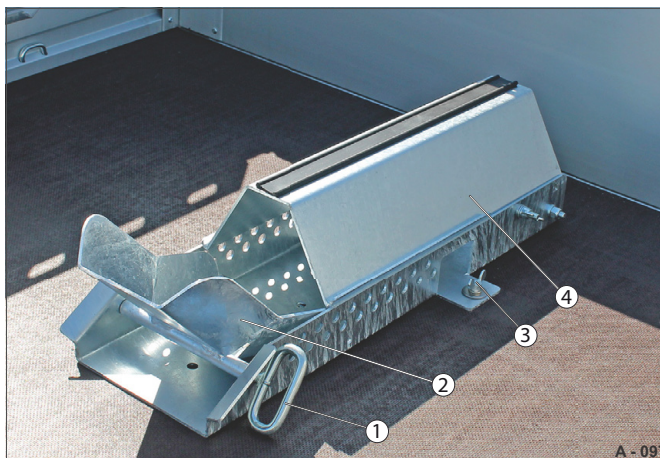
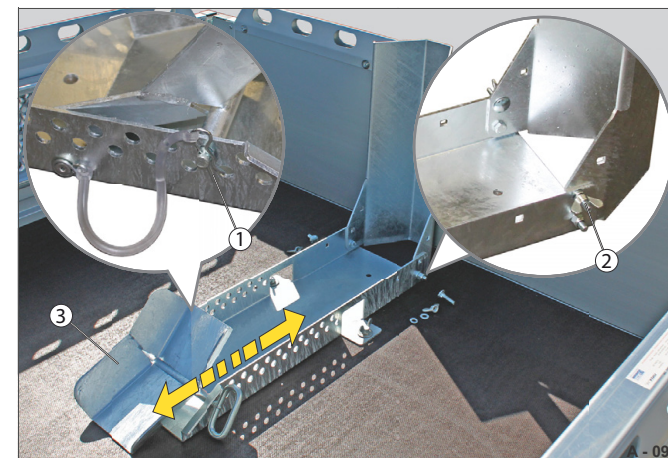

Fig. 99 Motorcycle stand folded down
Fig. 100 Motorcycle stand folded out / secured
Is attached on the cargo bed by screwing through with wing nuts (Fig. 99 /3).
- Release the contact plate (Fig. 99 /4) and fold it upwards.
- Secure it with the wing nuts (Fig. 100 /2).
- Adjust the drive-up ramp (Fig. 100 /3) according to the wheel size of your motorcycle - position in the corresponding slot.
- Secure the drive-up ramp with the plug pins. (Fig. 99 /1) and R-clip (Fig. 100 /1).